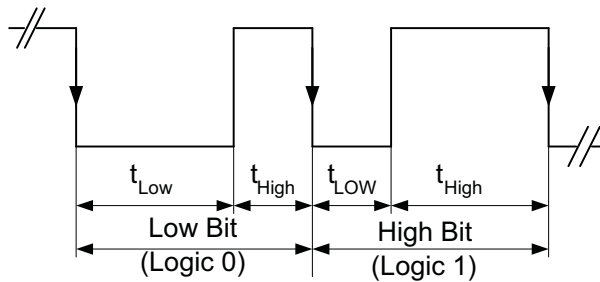

Figure 16. EasyScale Bit Coding
- **High Bit:** $t_{High} > t_{Low}$, but with t_{High} at least twice the duration of t_{Low} , see Figure 16.
- **Low Bit :** $t_{High} < t_{Low}$, but with t_{Low} at least twice the duration of t_{High} , see Figure 16.